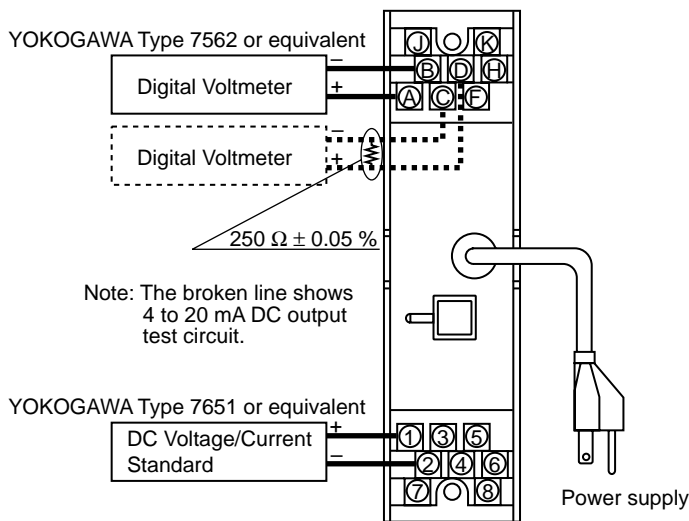

Figure 6-2 Adjustment
- (a) Connect the equipment as illustrated in Figure 6-2.
If any fault occurs in the instrument, note the symptoms, and follow Section 7-1 Troubleshooting Flowchart. To find the fault, first wire the instruments according to Figure 6-2, apply an input signal, and note the symptoms. If the fault is difficult to find, contact your nearest Yokogawa sales staff.